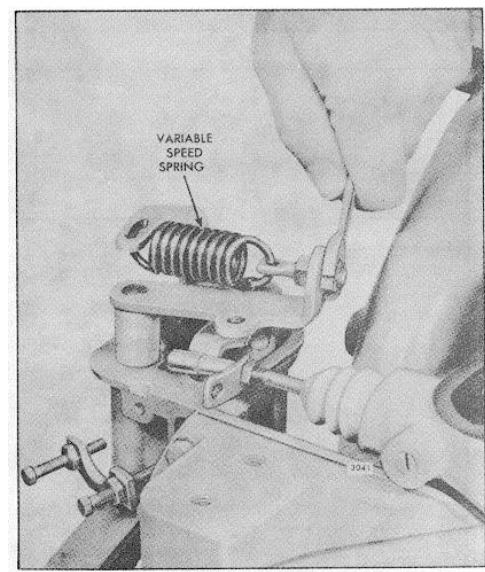

Fig. 6. Adjusting Idle speed
- With the engine running at normal operating temperature, loosen the lock nut and turn the idle speed adjusting screw (Fig. 6) until the engine idles at the recommended speed. The recommended idle speed is 500 rpm. However, the idle speed may vary with special engine applications.